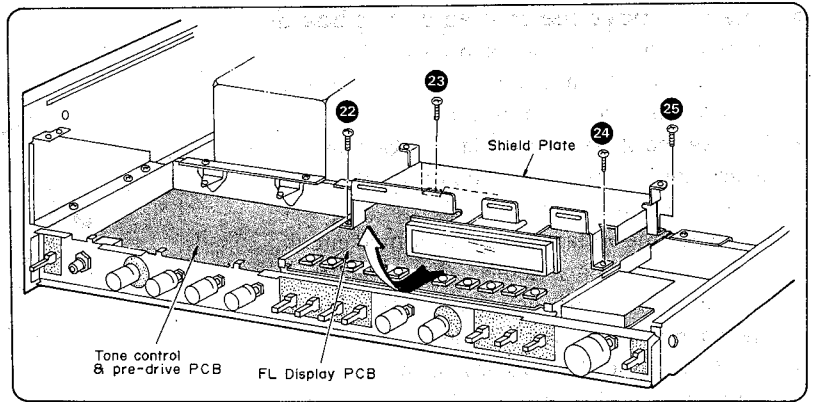

Fig. 6
4. To detach the FL display printed circuit board (center), first remove the tuner printed circuit board and the 4 setscrews (Fig. 6 : 22 ~ 25 ) of the shield plate (upper), and then lift the circuit board in the direction of the arrow in Fig. 6.